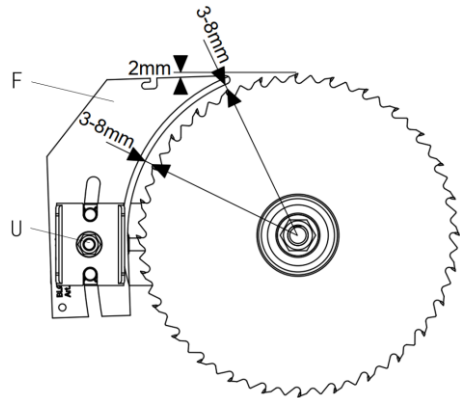

Fig. 25
- Blade set screw (02)
- Centring flange (04)
- Saw blade (K)
- Tightening flange (03)
Refit and set the splitter (F, Fig. 25) and the saw blade guard (A). Fig.1.